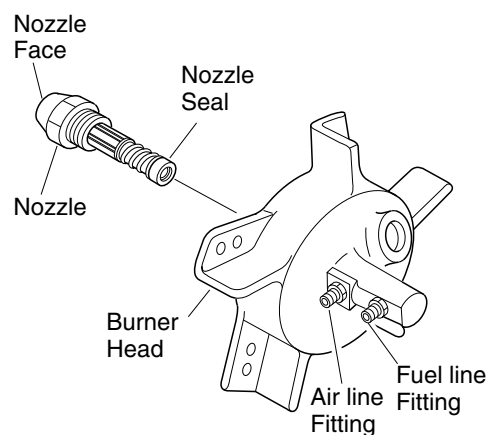

Figure 24 - Removing Nozzle, 70/100/150,000 Btu/Hr Models
8. Carefully remove nozzle from burner head using 5/8" socket wrench (see Figure 24).